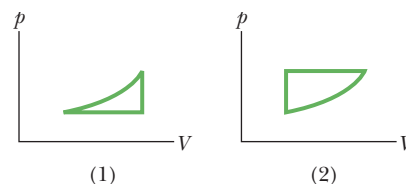

Figure 18-27 Questions 7 and 8.
**7** Figure 18-27 shows two closed cycles on  $p$ - $V$  diagrams for a gas. The three parts of cycle 1 are of the same length and shape as those of cycle 2. For each cycle, should the cycle be traversed clockwise or counterclockwise if (a) the net work  $W$  done by the gas is to be positive and (b) the net energy transferred by the gas as heat  $Q$  is to be positive?
**8** For which cycle in Fig. 18-27, traversed clockwise, is (a)  $W$  greater and (b)  $Q$  greater?